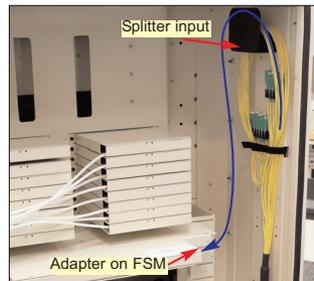

Fig. 18
limiter at the top of the feeder plate (Fig. 18 - blue line).
- Remove the dustcap from both the connector and the adapter and insert the connector until it is fully seated into the adapter (Fig 18).